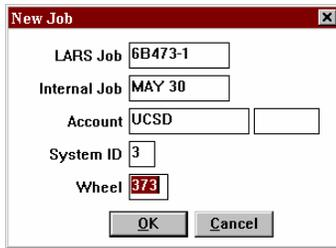

Figure 37 - New Job Window
**New** create a new job. The **New Job** window is displayed (*Figure 37 - New Job Window*), allowing specification of the job ID, system ID, account ID, and wheel number.
The New Job window (*Figure 37*) is displayed when you click the **N**ew button. The window will ask for some or all of the following: